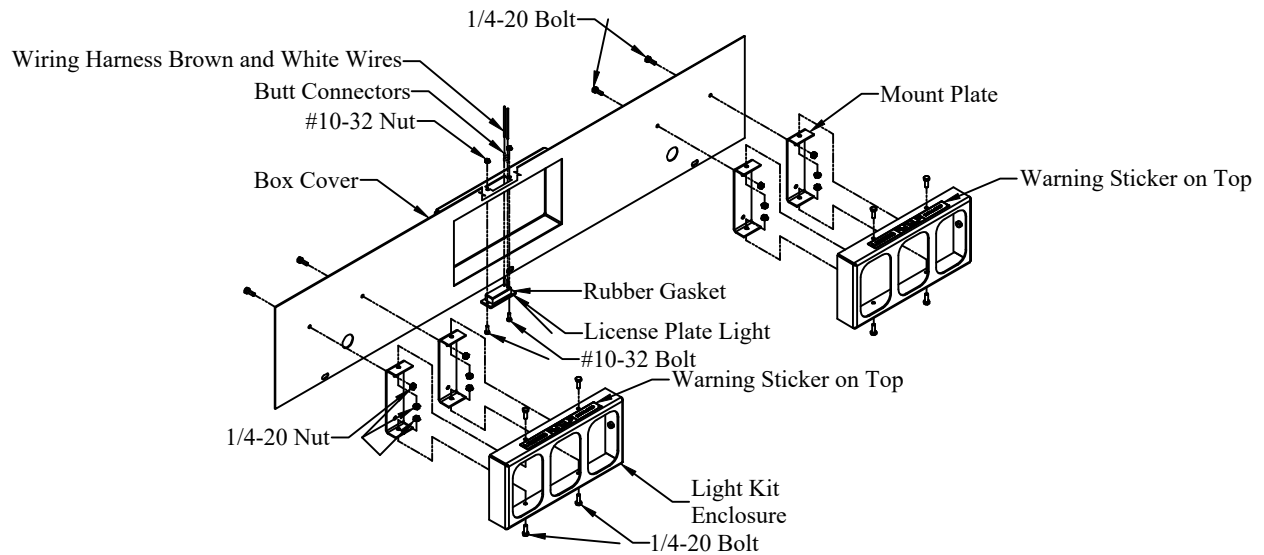

Figure 6: Box Cover Assembly
1. **Loosely Attach** two (2) mount plates to the back of each enclosure using two (2) 1/4-20 nuts and bolts per mount plate (Figure 6).
2. **Loosely Attach** each enclosure to the box cover using one (1) 1/4-20 nut and bolt through the upper hole of each mount plate (Figure 6).
3. **Tighten** the twelve (12) nuts and bolts attached in steps 1 and 2.
4. **Ensure** the rubber gasket is in place on the license plate light (Figure 6).
5. **Mount** the License Plate Light using two (2) #10-32 nuts and bolts (Figure 6).
5. **Splice** the license plate light wires to one pair of the blunt-cut white and brown wires (Figure 6).